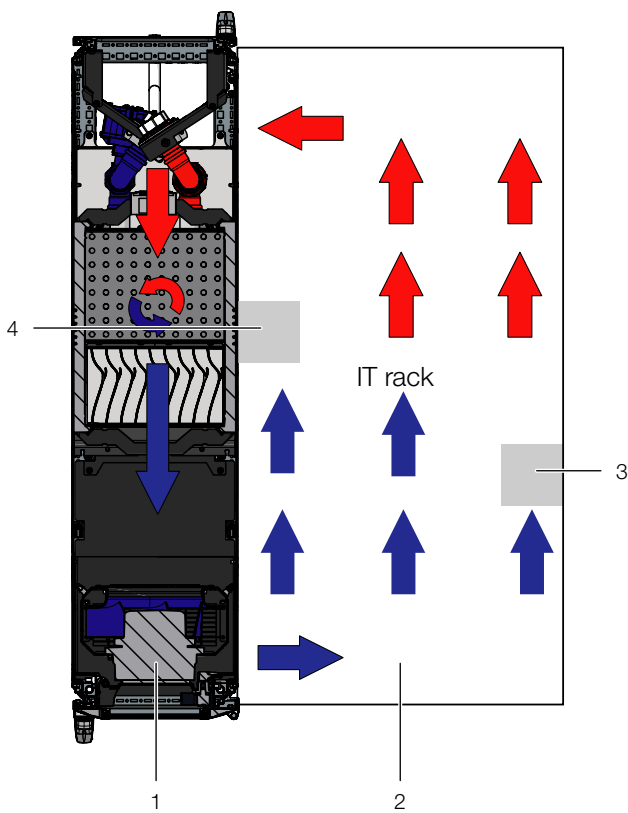

Fig. 14: Placement of foam strips for devices with sideways air throughput (top view) – LCP Rack DX
- If several devices which require sideways air throughput are included, cut out several pieces of the foam strip, as is appropriate, so that, ultimately, there is a cut-out in the foam to the left or right at the height of each such device in the server rack. Ensure that there are no gaps on the hot air side of the devices (fig. 14,
- Attach the foam strips to the cold air side of the devices set back towards the rear (fig. 14, item 4), making sure that all fans built into the devices can draw air and that none of them are blocked.
The foam strips can be attached between the front and rear uprights of the server rack along the entire depth of the devices with sideways air throughput (fig. 14).